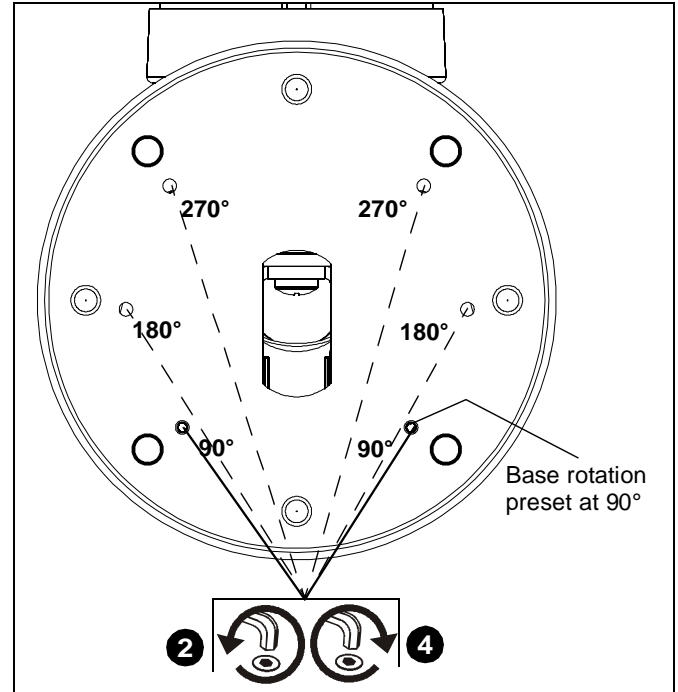

Figure 2
**IMPORTANT ! :** The STS1 is shipped with the display rotation set at the minimum of  $90^\circ$ . Base rotation may be adjusted to  $90^\circ$ ,  $180^\circ$  or  $270^\circ$  and locked if installation location requires it. (See Figure 2)
2. Remove and save setscrews from two  $90^\circ$  holes in base using  $3/32$ " hex key (K). (See Figure 2)
4. Place setscrews into the appropriate holes ( $180^\circ$  or  $270^\circ$ ) and tighten to secure rotation amount. (See Figure 2)